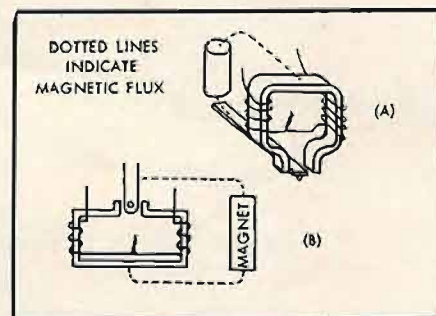

Fig. 3. Schematic arrangement of normal monaural GE VR-II cartridge.
The normal GE pickup consists of a sensing element for lateral motion only. Figure 3 shows the schematic arrangement. At (A) the magnetic flux flows from the top of the magnet to the top of the core, and from the bottom through the stylus bar; (B) shows the "schematic" of the magnetic circuit. As the stylus moves laterally to the right, for example, an increased flux flows through